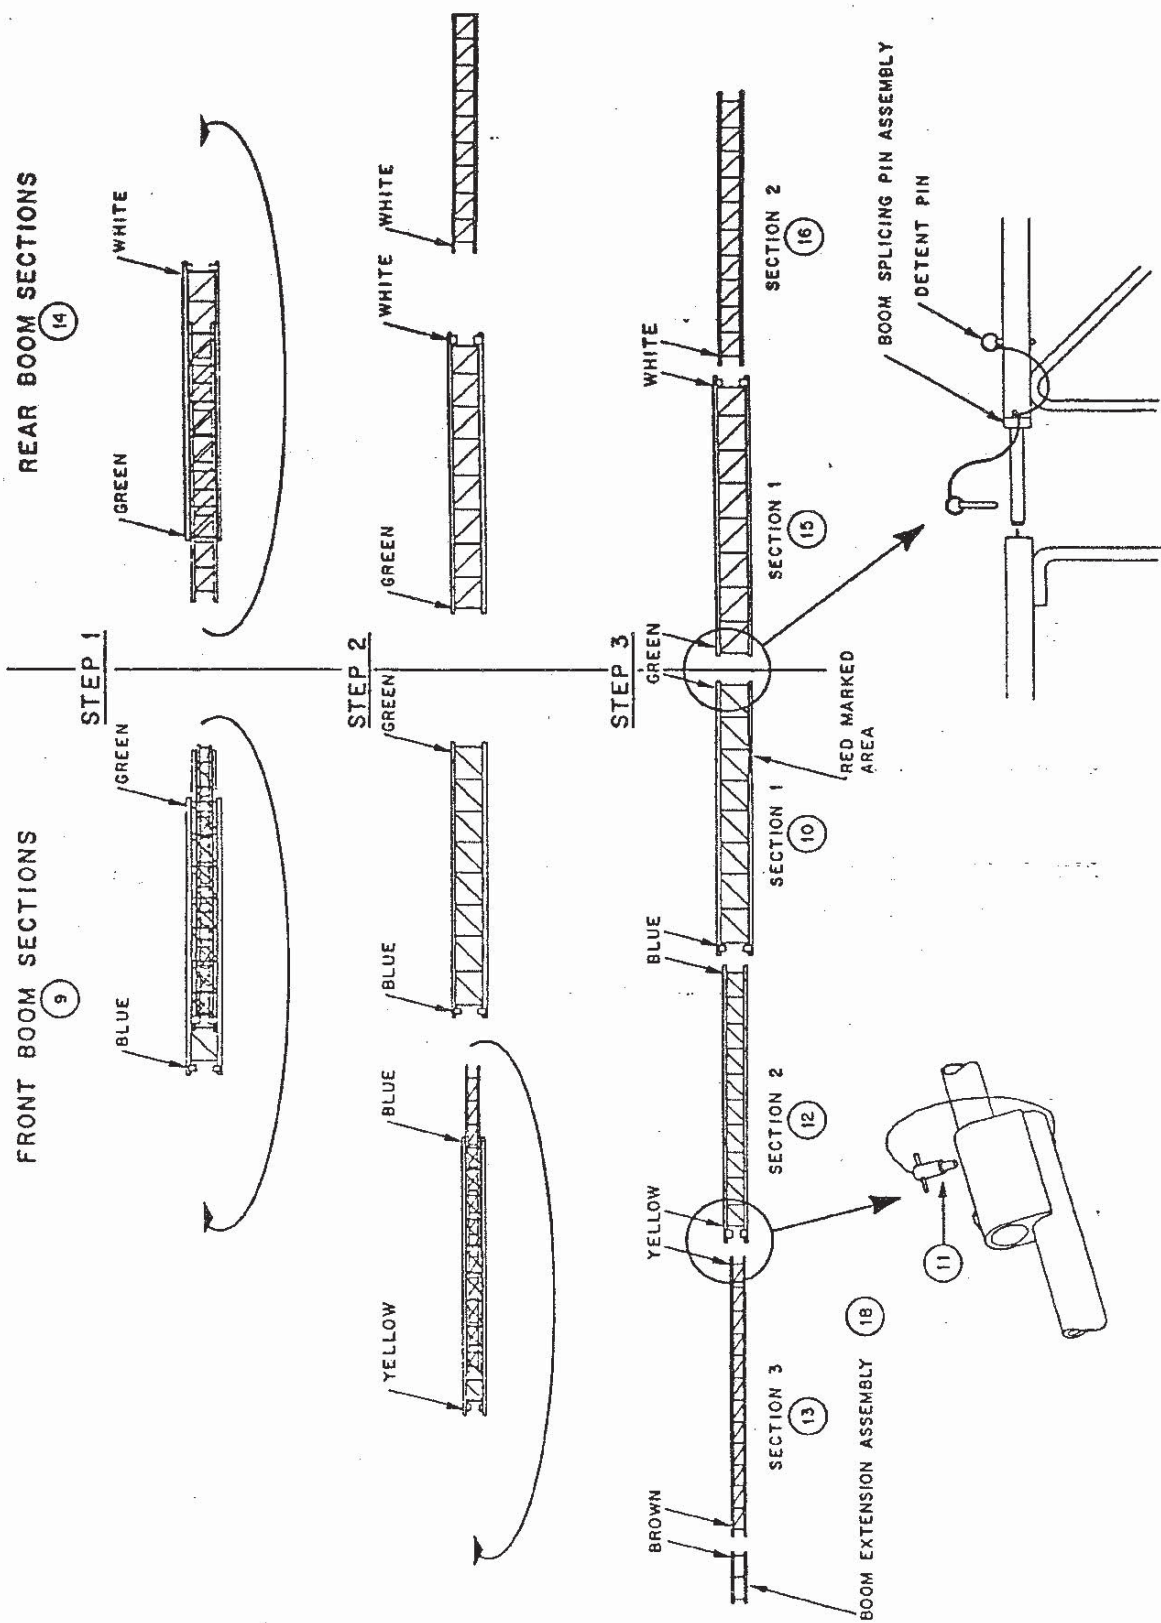

Figure 2-31
- a. At this time, the front nesting boom section assembly and the rear nesting boom section assembly will be removed from the crate. Assemble Section 1 of the front boom and Section 1 of the rear boom using the boom splicing pin assembly, as shown in Figure 2-31. The red-marked region on this middle section indicates the position where the boom is attached to the hinge plate.
- f. Assemble the remaining boom sections as shown in Figure 2-31. A color coding mark has been applied to the top leg of each boom section. The end of each boom section should be assembled exactly as shown in Figure 2-31. These boom legs must all match so that when the boom is completely assembled, all the top legs will be marked with the appropriate color code marking. During assembly of the boom, the top leg will be on the bottom.